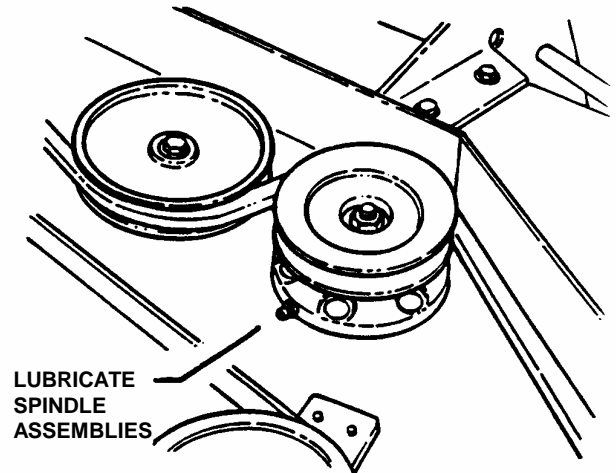

FIGURE 3.4
- Lubricate with Kendall NLGI No. 2 lithium grease or equivalent, from a grease gun until grease purges from vent located on spindle housing underneath deck.. See Figure 3.4.